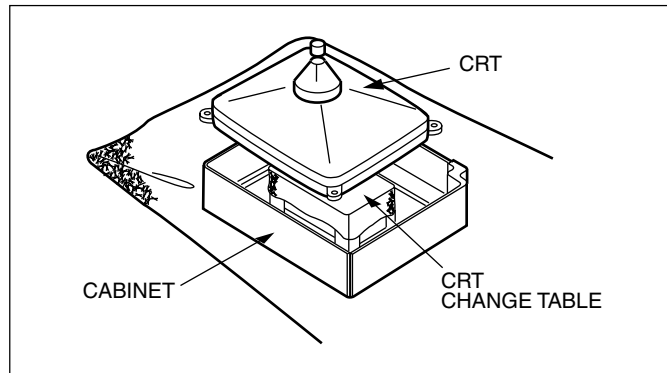

Fig. 4
- 4. After 4 screws have been removed, put the cabinet slowly on cloth (At this time, be carefully so as not to damage the front surface of the cabinet) shown in Fig.4.